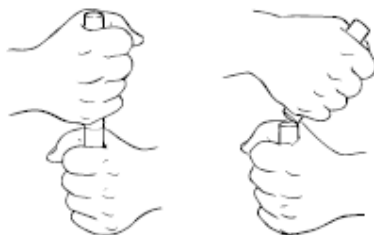

Figure 6: Breaking the 'D' end of the collector tube
12) With the **D** end still up, break the collector tube in half by pulling the **D** end hard towards yourself to break it, then twisting and tearing off the **D** end (Figure 6). Discard the **D** end.